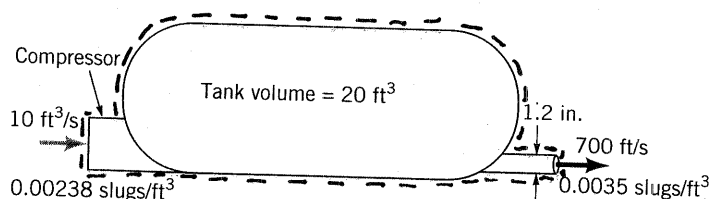

FIGURE P5.15
5.15 Air at standard conditions enters the compressor shown in Fig. P5.15 at a rate of $10 \text{ ft}^3/\text{s}$. It leaves the tank through a 1.2-in.-diameter pipe with a density of $0.0035 \text{ slugs/ft}^3$ and a uniform speed of 700 ft/s . (a) Determine the rate (slugs/s) at which the mass of air in the tank is increasing or decreasing. (b) Determine the average time rate of change of air density within the tank.